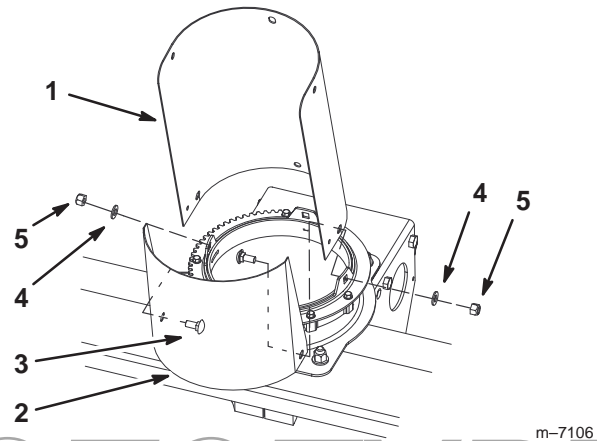

Figure 6
1. Install the lower discharge chute and deflector shield onto the housing with 3 carriage bolts (5/16 x 3/4 inch) (heads to the inside), 3 washers (5/16 inch), and 3 locknuts (5/16 inch) (fig. 6).